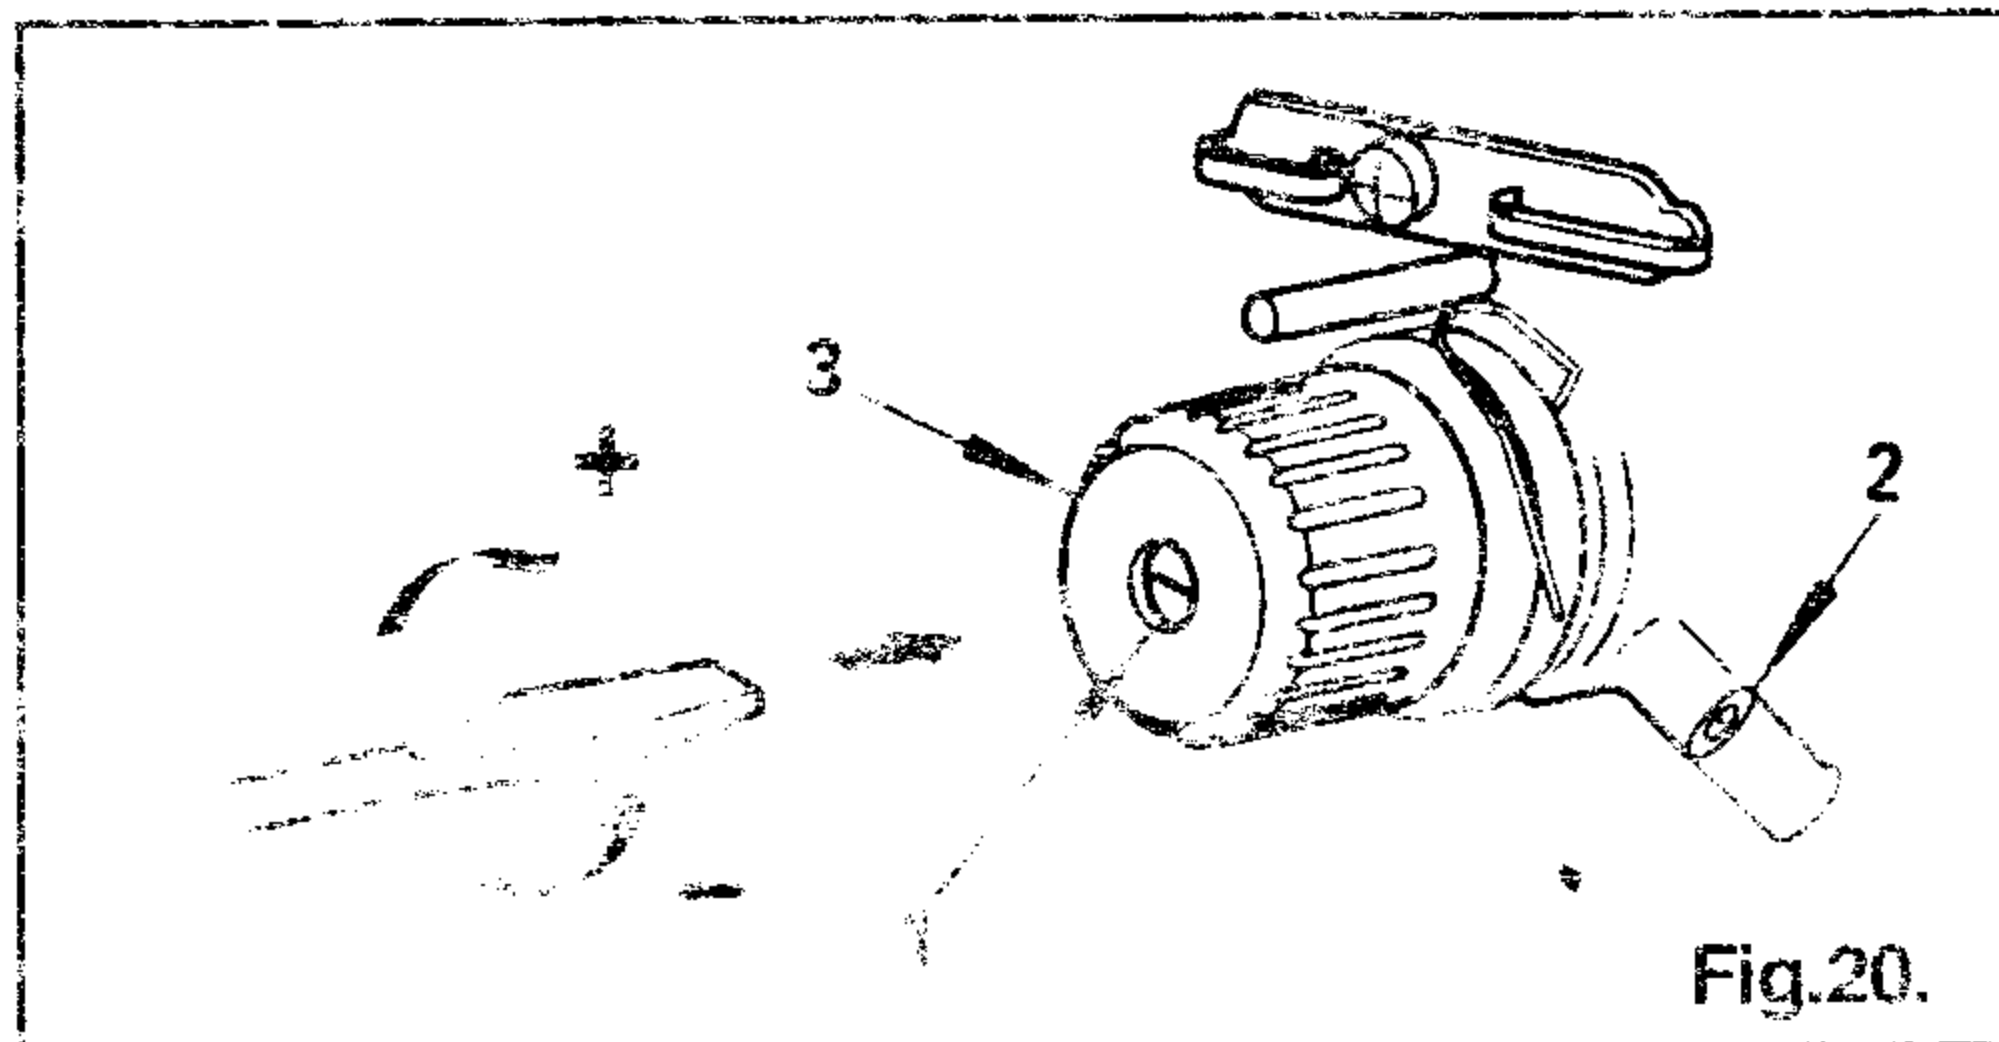

Fig.20.
Using a screwdriver in slot of stud (1) Fig. 20 regulate take-up spring tension by turning stud (1), as required.
To adjust the amount of take-up spring movement, loosen screw (2), Fig. 20 and set take-up spring height by turning the entire tension assembly (3) toward left or right, as required. Securely tighten screw (2).